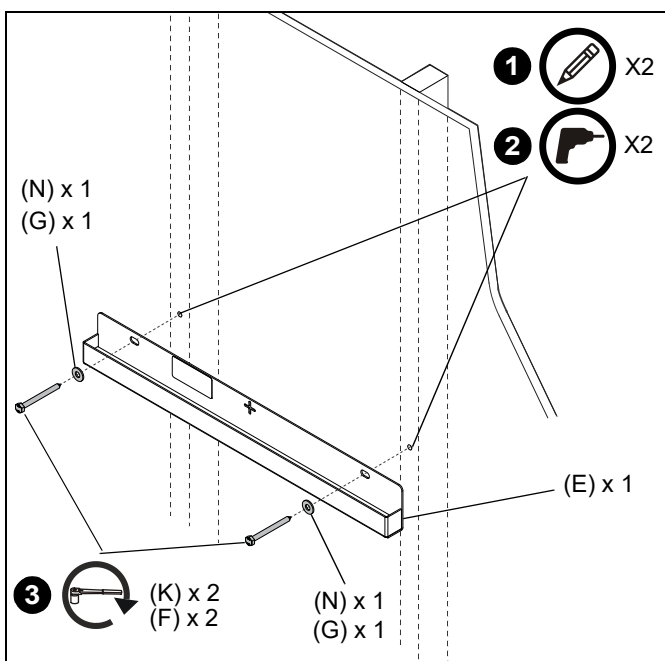

Figure 1
1. Place the lower wall bracket (E) on the wall in the desired location, making sure both mounting slots are positioned over a wall stud. Hold the bracket level and mark the locations of both mounting slots. (See Figure 1)
2. Remove the lower wall bracket (E) from the wall and drill one pilot hole (7/32" wood stud, 1/2" steel stud) at each location. (See Figure 1)
3. Replace lower wall bracket (E) on wall and install using:
- Wood studs: Two 1/4" x 2-1/2" lag bolts (K) and two 1/4" washers (N). (See Figure 1)
- Steel stud/drywall-only: Two 1/4-20 x 1-3/4" (F) and two 1/4" washers (G). (See Figure 1)